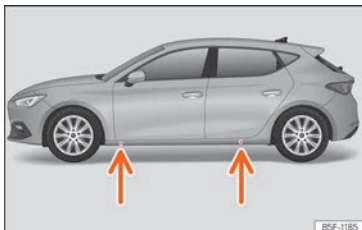

Fig. 40 Jack position points.
- Find the support point on the strut (sunken area) closest to the wheel to be changed » **Fig. 40.**